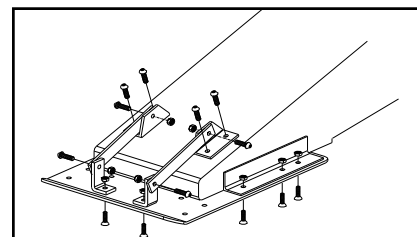

Figure 4
6. If the Capture Plate {J2} extends beyond the King Pin box, then install the braces {K2-K4} as shown in Figure 4.
FOR KING PIN BOXES WITHOUT FLANGES: (Figure 4)
4. If the Capture Plate {J2} extends beyond the King Pin Box, then install the Knee Braces as shown in Figure 4.